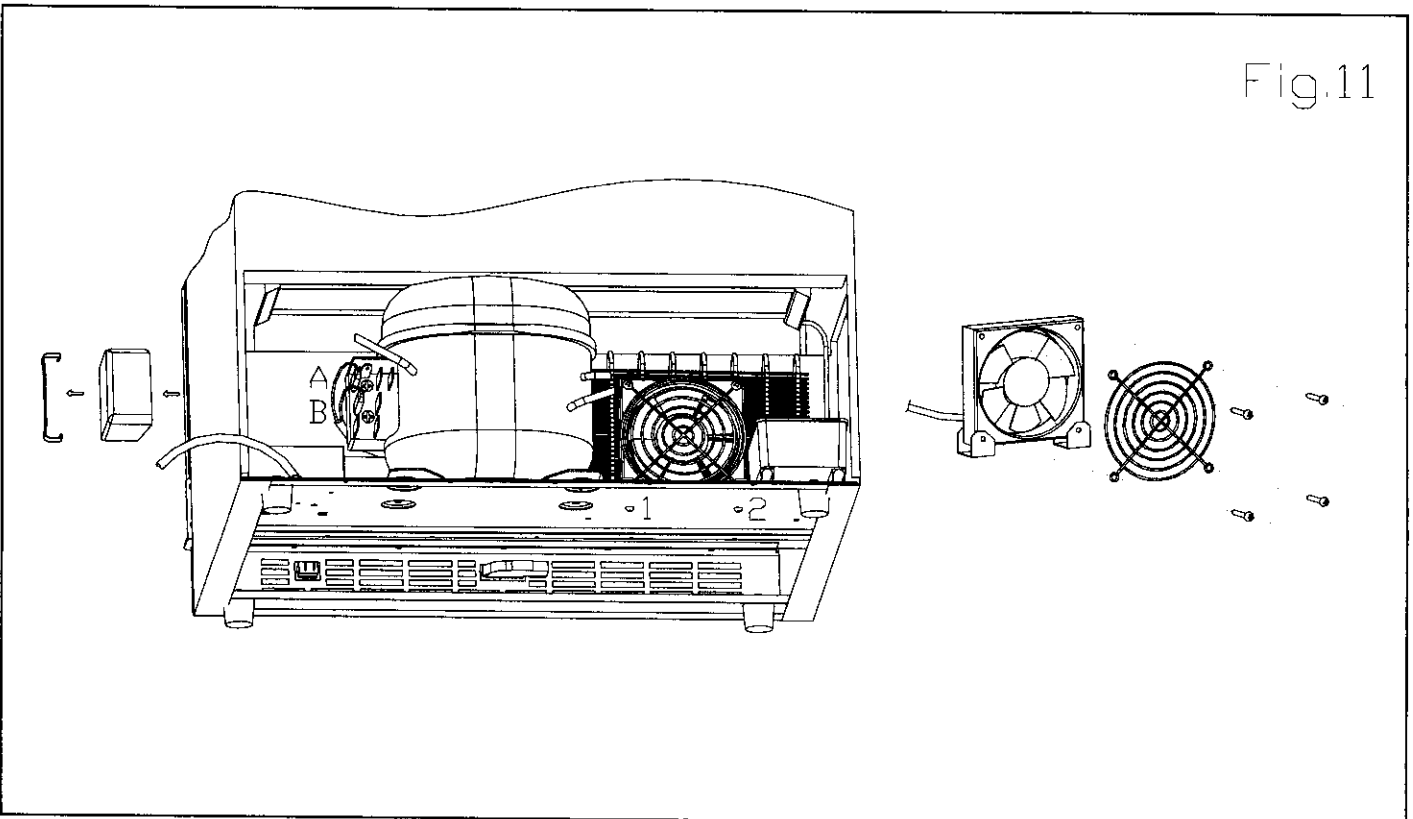

Fig.11
①. Remove the spring (A), remove the compressor electrical box (B) . See (Fig.11).
- ③. Remove the two screws of the fan with the philips head screw driver (1.2.), and remove the condenser fans spare parts;See (Fig.11)
- ④. Remove the 4 fixing screw of the fan with the philips head screw and take off the fan, and replace it with the new fan. See (Fig.11)